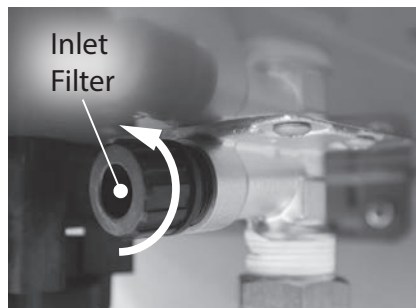

Figure 179 - Removing the inlet filter
- 7 Locate and remove the inlet filter as shown in Figure 179 to drain any residual water left in the system. Place a bucket or pan underneath inlet filter to collect water during removal.